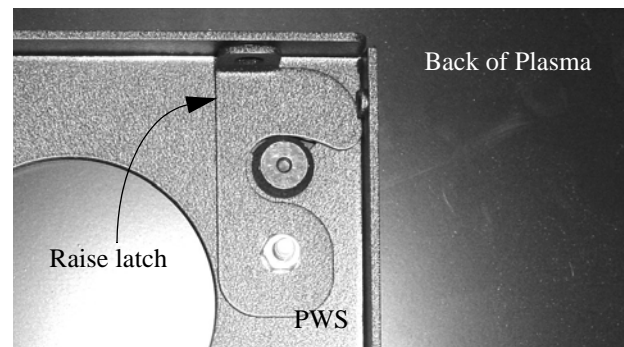

FIGURE 3. RAISE LATCH
4. Secure the display to the PWS by completely engaging the latch (see Figure 3).